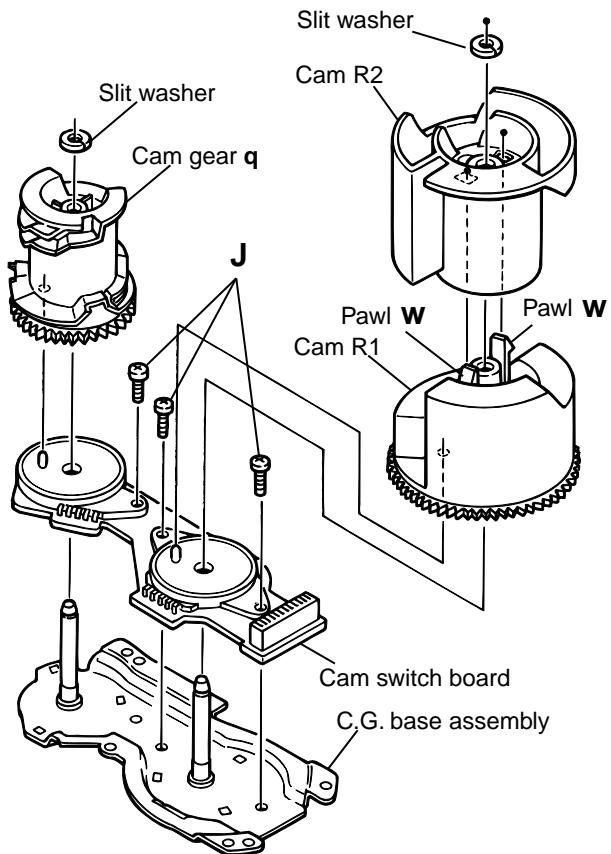

Fig.22
■ Removing the cams R1/R2 assembly and cam gear q (See Fig.22)
■ Removing the C.G. base assembly (See Fig.22 and 23)